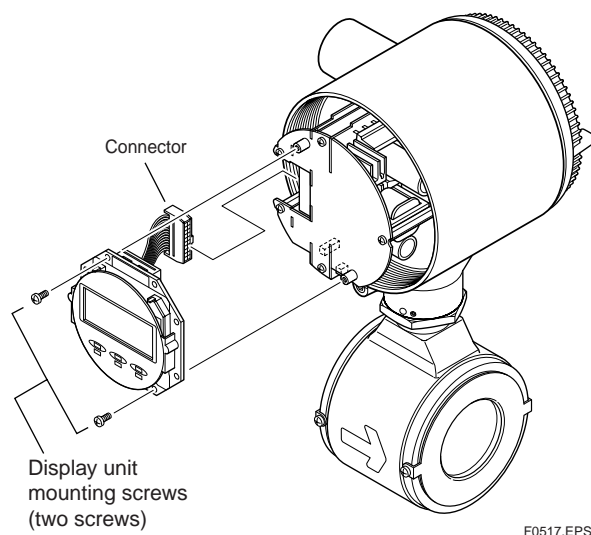

Figure 5.4.3 Removing and Assembling the Display Unit
- (3) Hold the display unit with your hand and remove the two mounting screws. Remove the connector of the display unit by pulling it to the left, taking care not to damage it (refer to Figure 5.4.3).